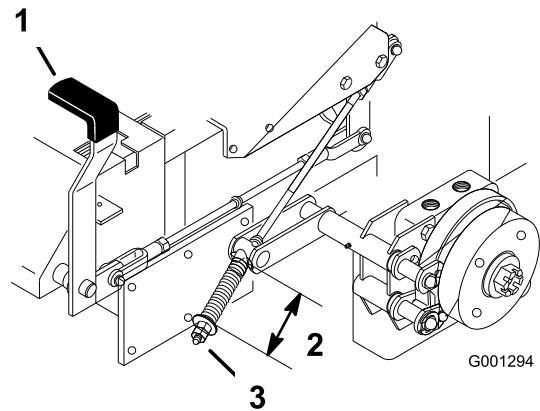

Figure 73
2. Measure the length of the spring (Figure 73).
3. If adjustment is necessary, disengage the parking brake, loosen the jam nut below the spring and adjust the nut directly below the spring (Figure 73).